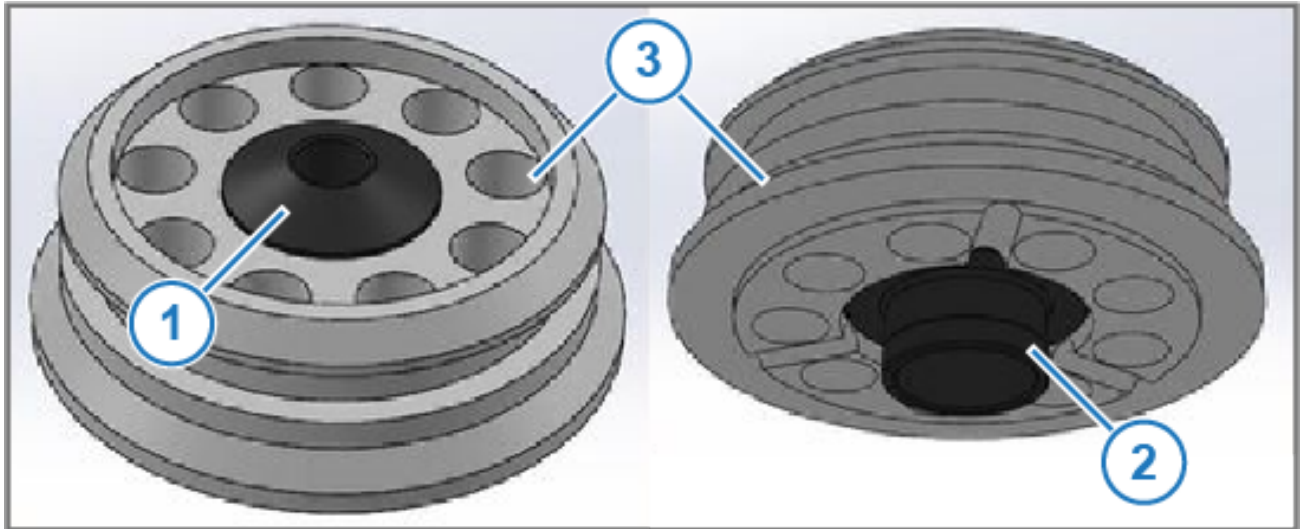
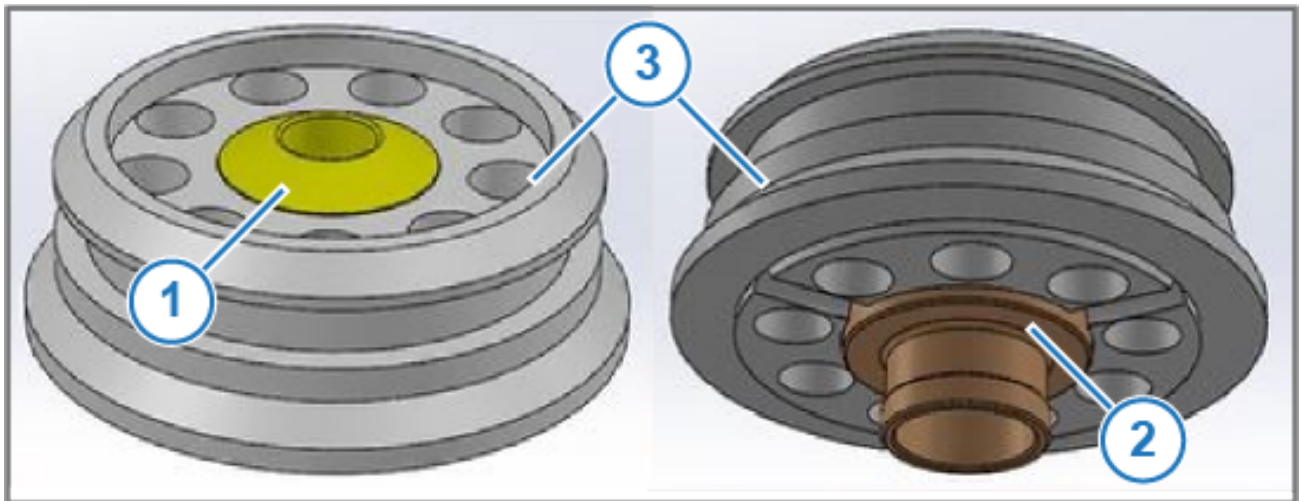

Figure 3: Black Coated Mound and Tail
Figure 4: Stainless Steel Mound and Tail
The Spitfire valve uses a removable orifice assembly in place of the solid valve body of the legacy valve. The different style of orifice inserts can be identified by the finishes of their mounds (1) and tails (2) which protrude from the orifice body (3). These may either be black coated (Figure 3) or bare stainless steel (Figure 4).